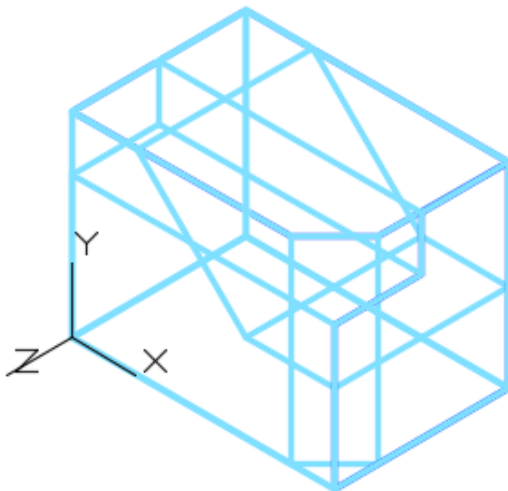

Figure Step 11A
Step 11 Set the current visual style to 2D Wireframe. Using PRESSPULL, extrude the Right Side and the Top view. Set the current visual style to Realistic to see all three extruded solids at the same time. (Figure Step 11A and 11B)